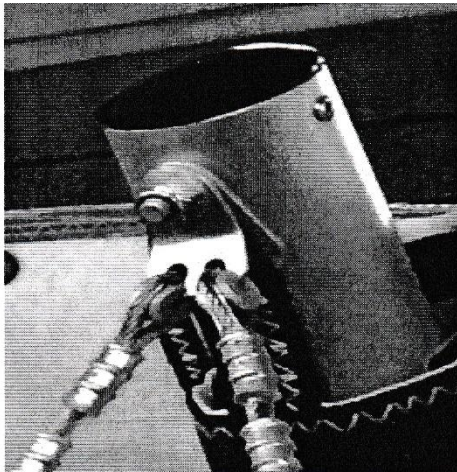
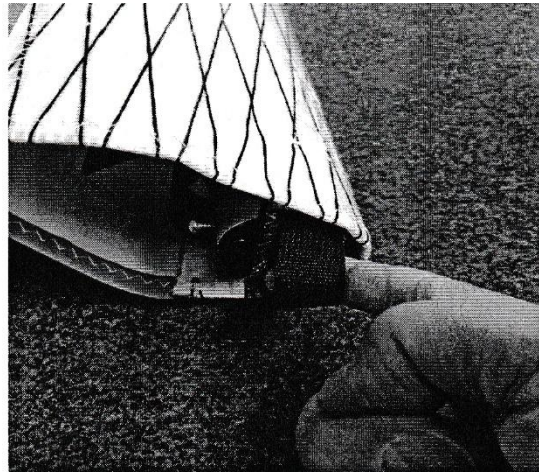

Figure 65
Figure 66
8. Disconnect the rear wires and the keel pocket mount tang from the keel tube (fig. 65). Undo the sail mount webbing Velcro and remove the sail mount webbing from the leading-edge end caps (fig. 66).